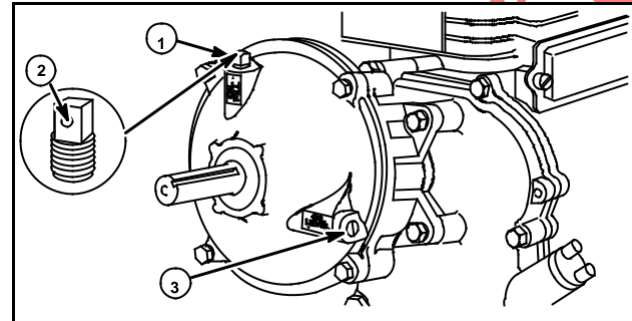

Fig. 1
1. Remove oil level plug (3) and oil fill plug (1), Fig. 1.
6. Replace both plugs making sure oil fill plug with vent hole (2) is installed in top hole, Fig. 1.